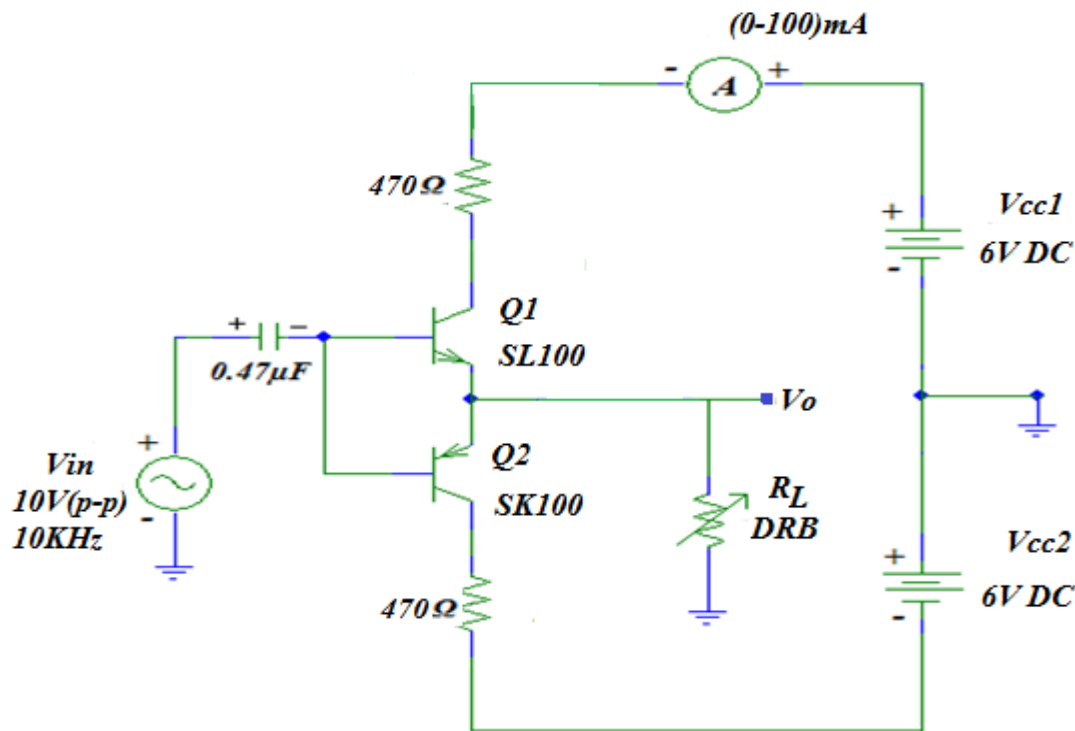

Fig 8.a – Class B power amplifier
1. Rig up the circuit as shown in figure 8.a.